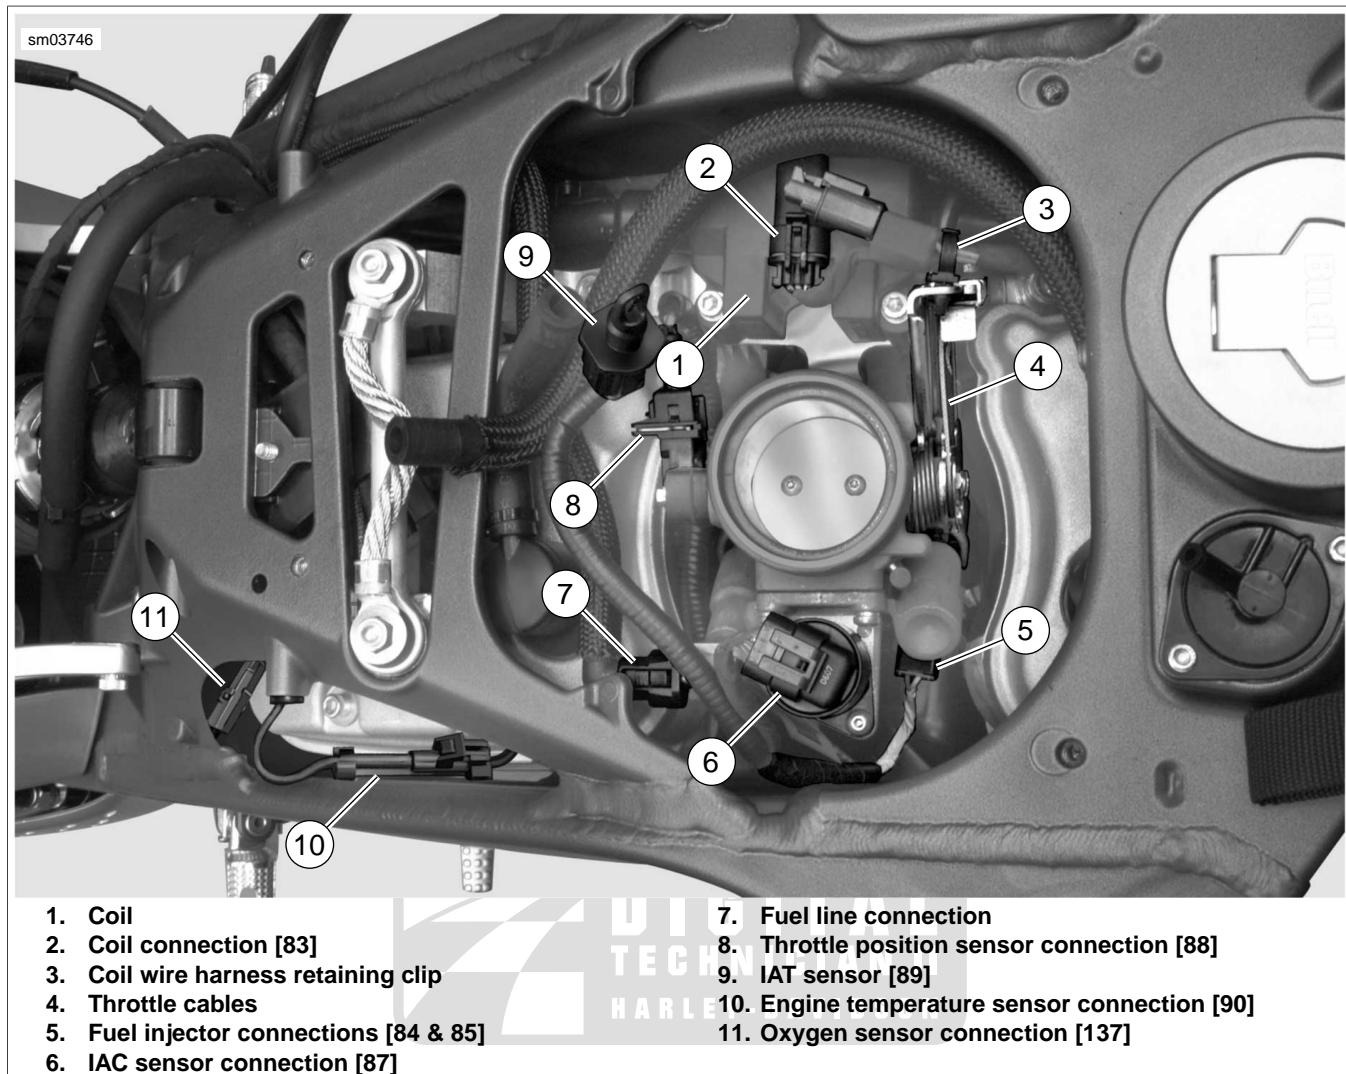

Figure 3-1. Fuel Line, Connections and Throttle Cables
8. See Figure 3-1. Disconnect fuel line (7).
9. Disconnect the throttle position sensor [88] (8).
10. Disconnect the fuel injector connectors [84 & 85] (5).